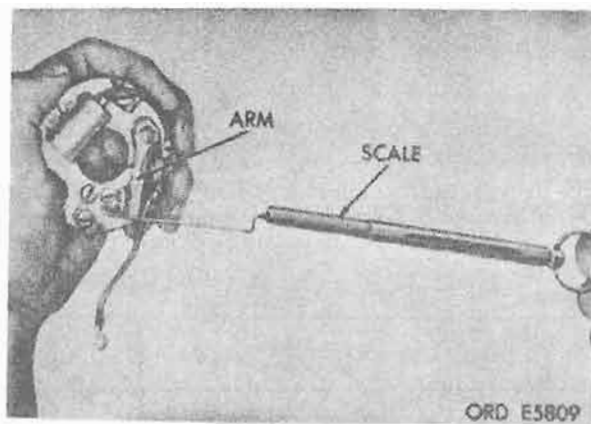

Figure 6-12. Checking distributor point tension.
a. Hook spring scale on movable contact arm and pull on line with points. Take reading as points separate. Tension should be 17-20 ounces (fig. 6-12).